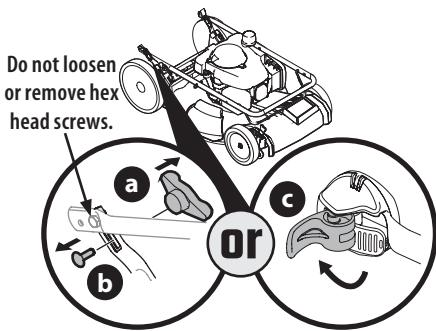

Figure 1
- Remove knobs or wing nuts (a) and carriage bolts (b) from the handle, or if equipped with the EZ-lock handle (c), proceed to STEP 2 (Figure 1).